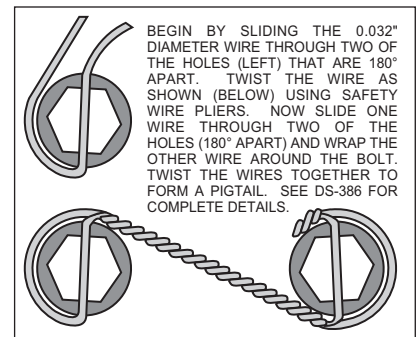

Figure 4. Safety Wire Diagram
- Pack the large inner bearing cone (8) with high temperature disc brake bearing grease (available from your local auto parts store) and install into the backside of the hub (7).
- Install the grease seal (9) by pressing into the backside of the hub (7).
- Attach rotor adapter (10) to rotor (11) using six bolts (12). Torque bolts (12) to 180 in-lb. Safety wire bolts (12) using standard 0.032 inch diameter stainless steel safety wire as shown in Figure 4. Please refer to Wilwood's data sheet DS-386 (available at www.wilwood.com/pdf/ds386.pdf) for complete safety wire installation instructions. **NOTE:** *The flat side of the rotor (11) lugs face toward the rotor adapter (10) with the dished side of the rotor adapter (10) facing away from the rotor (11).*